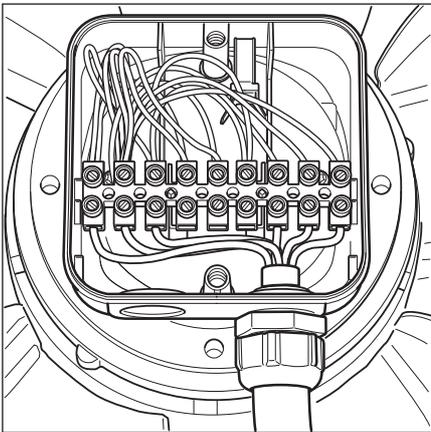

Figure 4: Connecting the wires to terminals
- Connect up the protective earth (PE) wire.
- Connect the remaining leads to the respective terminals. See Fig. 4.